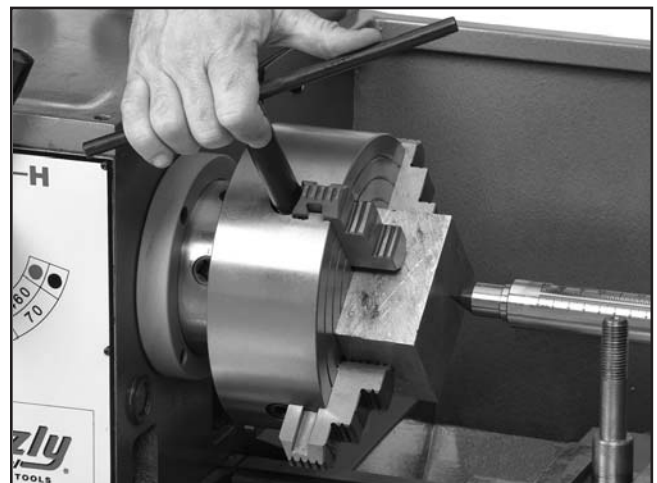

Figure 28. Centering workpiece (tool post removed for clarity).
4. Turn the tailstock quill so the dead center applies enough pressure to the center point of your workpiece to hold it in place (**Figure 28**), then lock the tailstock quill.
6. Tighten each jaw in small increments. After adjusting the first jaw, continue tightening in opposing sequence (see **Figures 28 & 29**). Check frequently to make sure you have not wandered off your center point due to applying too much pressure to a single jaw.